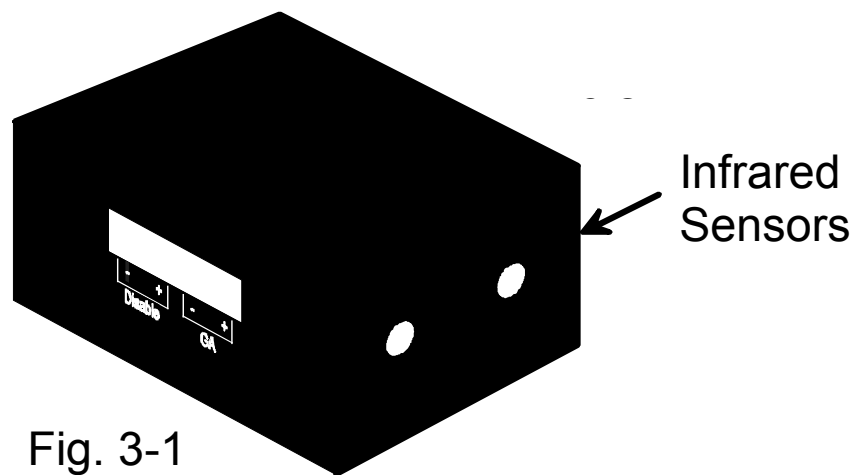

Fig. 3-1
3. **Determine the Doorminder mounting location.** The Doorminder uses an infrared emitter/detector to determine the position of the garage door. Note the position (**Fig. 3-1**) of the infrared sensors. To ensure correct operation, the Doorminder unit must be no more than 36 inches from the reflector plate when the door is fully open.